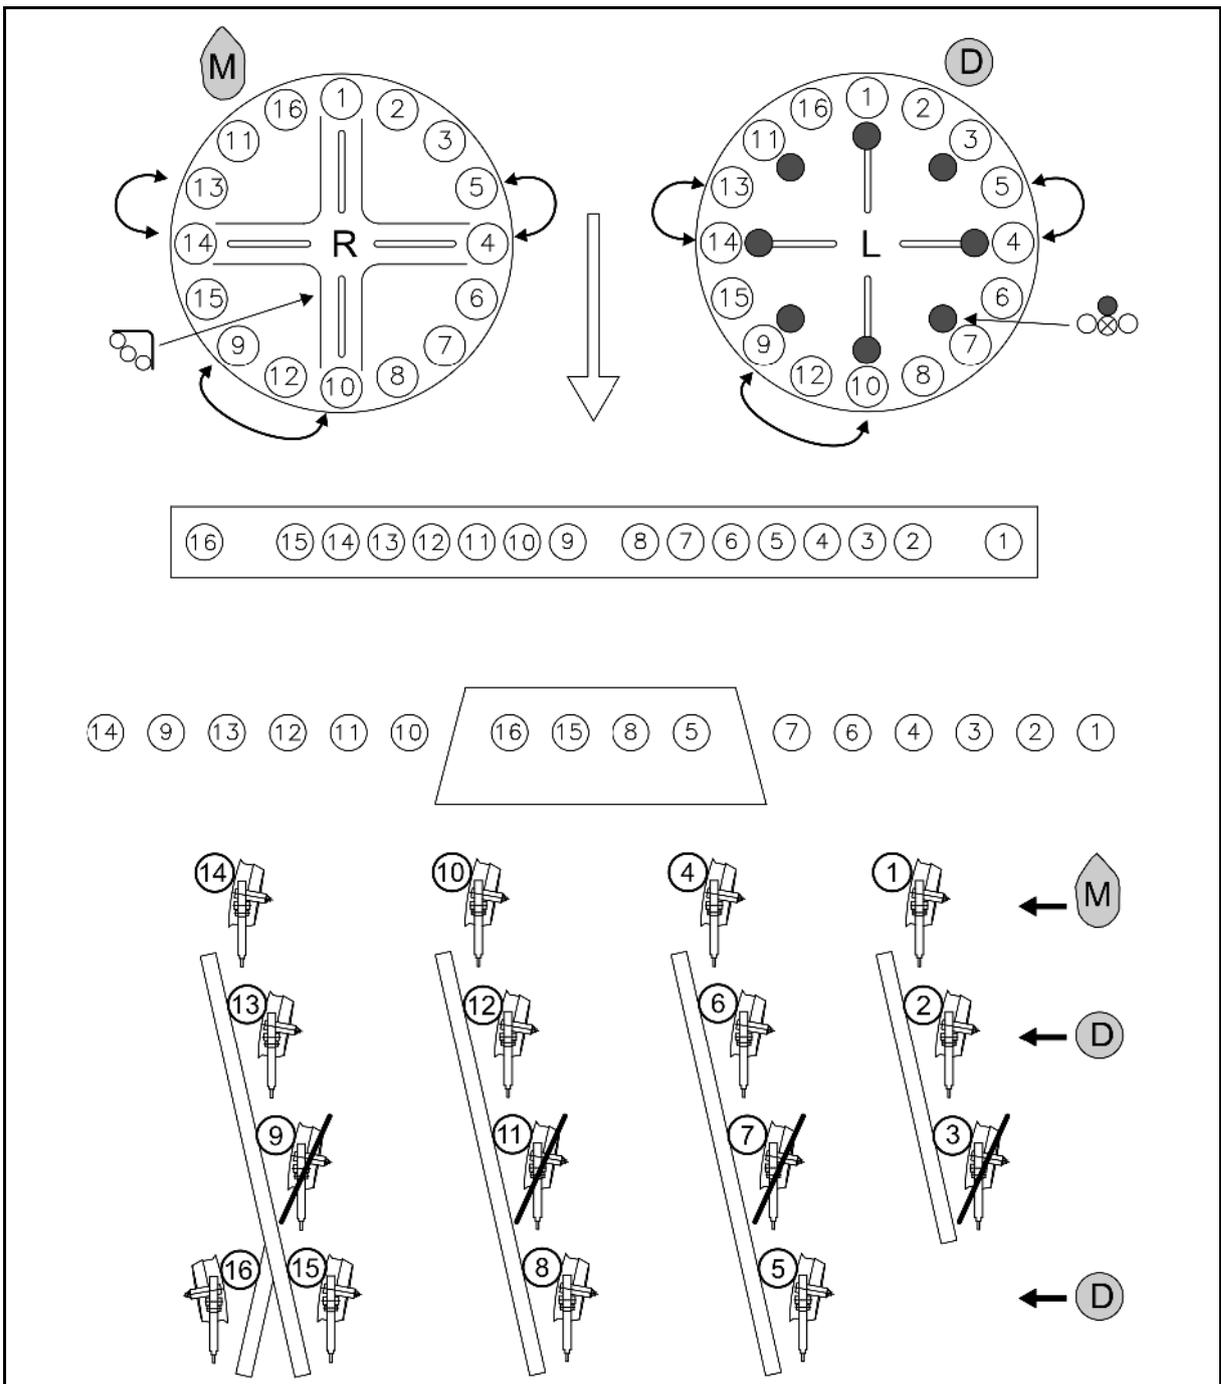

Fig. 37
- Maize ^M: Install the locking plates  according to Fig. 37.
- Fertiliser ^D: Install the sealing plugs  according to Fig. 37.